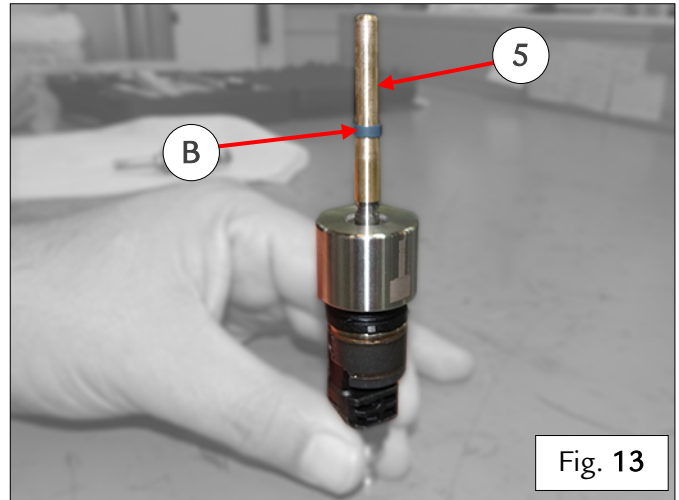

Fig. 13
- Fit the Teflon O-ring (B) on the fitment guide tool - Fig. 13.